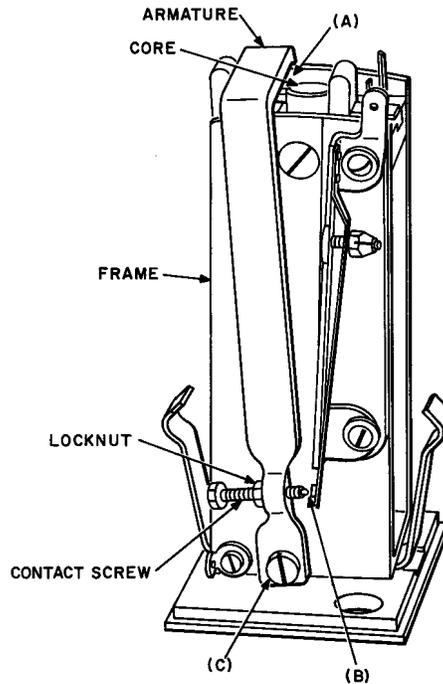

Fig. 3 — 85F-Type Relay — Correct Unoperated Armature Position
(1) 85F-Type Relay — The armature shall move freely in its bearings. Gauge by feel. See Fig. 3(C).
**2.09** *Armature Position* — Fig. 3(A): The front edge of the armature shall be back of the adjacent side of the core when the armature is in the unoperated position. Gauge by eye.